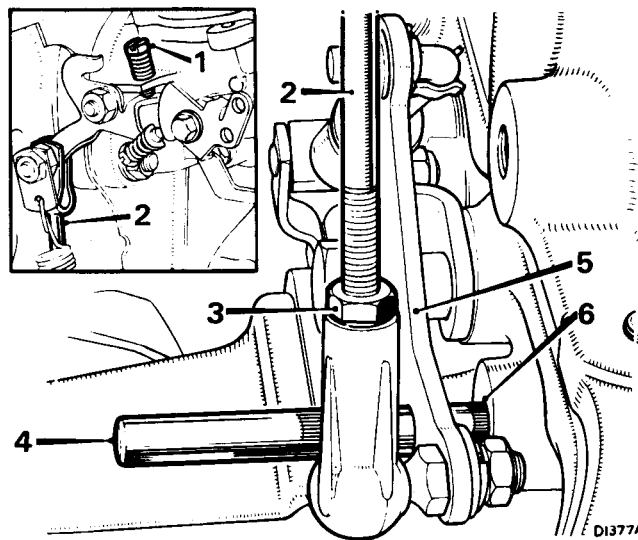

Fig. Fa.5
3. Disconnect the governor control rod at the carburetter, insert a ¼ in. (6.4 mm.) diameter rod through the hole in the intermediate bell-crank lever and locate the hole in the transmission case (Fig. Fa.5).
5. Slacken the control rod locknut, disconnect the forked end at the carburetter linkage and turn the rod until the correct length is obtained. Connect up at the carburetter end, tighten the locknut and remove the checking rod (see Fig. Fa.5).